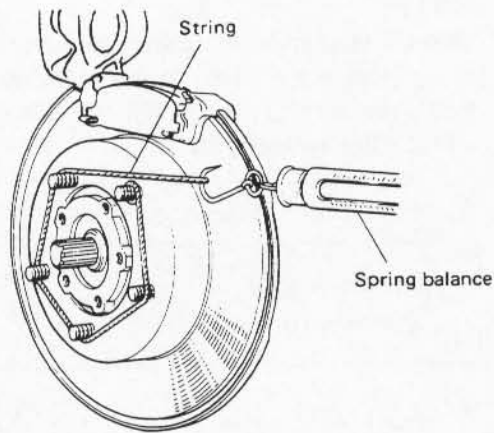

Fig. 17-5-25
- 3) Check wheel bearing starting preload using string and spring balance as shown in Fig. 17-5-25, and record the results.